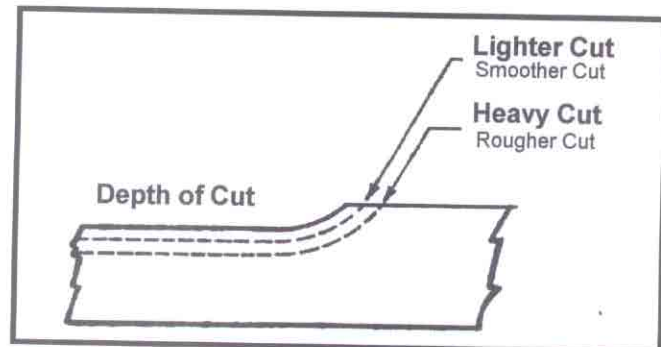

Fig. 2
- **Depth of Cut** - depth of cut from workpiece on a single pass through the machine. (Fig. 2)